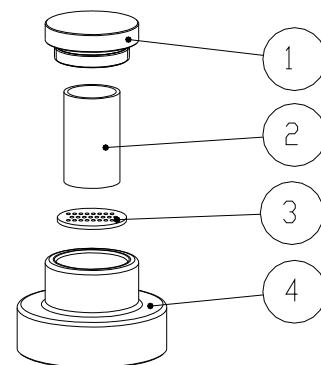

Fig. 3
- Hand pull prefilter (3).
**9.2. Replacement / cleaning of filter in air dryer (Fig.3)**
- Remove dryer plug (1) by unscrewing anti-clockwise.
- Remove the filter (2).
- Clean the screen (3) if necessary. It is possible to check or to change the filling (when dirty or to dusty or the dryer doesn't dry).
- Put a new filter (2).
- Refit dryer plug to the dryer head (4) and tighten it by hand (clockwise).